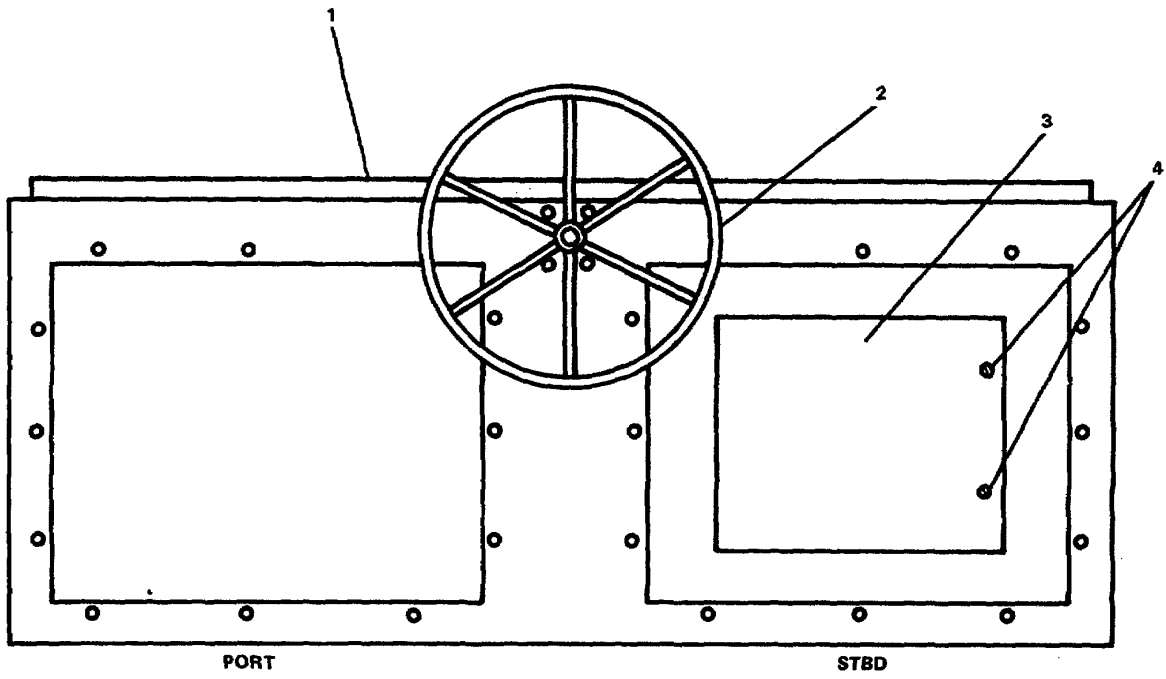

FIGURE 3-99. Pilothouse Control Console.
- (1) Unfasten two latching screws (4, Figure 3-99) securing starboard side access panel (3) to pilothouse control console (1).
- (2) Remove access panel.
- (2) Position wheel controller and front plate in control console (4). Make sure setscrew (6) goes into the proper hole.
- (3) Secure wheel controller, helm unit to control console (4) with four countersunk screws (5).
- (4) Install shaft key (8).
- (5) Slide wheel (2, Figure 3-99) over shaft key and shaft.
- (2) Secure assembly to rear of control console with four capscrews (2).
- (3) Connect electrical wiring to cable fittings (3) and remove tags.
- (4) Replace access panel (3, Figure 3-99) and secure to pilothouse control console (1) with two latching screws (4).
- (5) Restore electrical power to control console and remove warning tags.